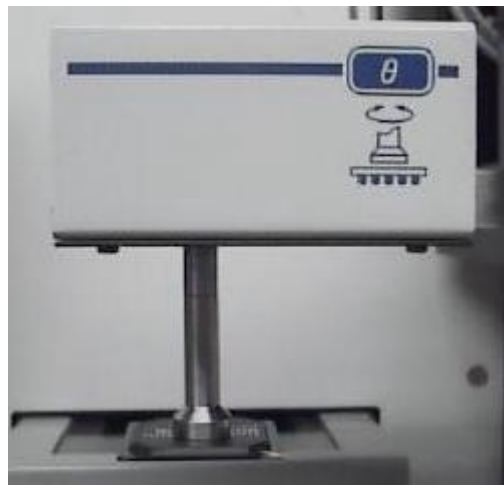

Figure 5: Component held by Vacuum Pick on TF 2000P
10. Adjust the lighting using the adjustment knobs (#1 & 2 Fig 5) so the image of the PCB land pattern and the image of the solder balls on the component can be seen clearly.
11. Adjust the height of the device with the height (Z-axis) adjusting screw (#4 Fig 5) to bring solder balls/leads into focus. Failure to focus the component may result in inaccurate alignment.